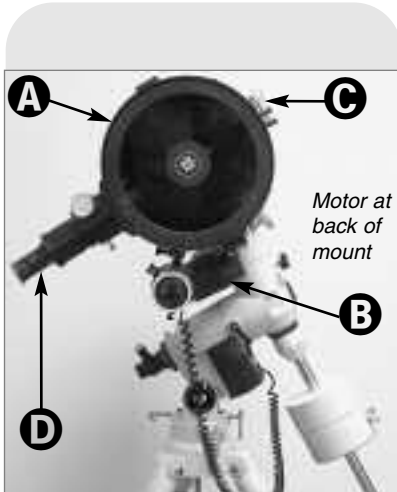

Fig. 48: Method #2 Setup. (A) Optical Tube; (B) Dec. Motor; (C) Cradle Ring Lock Knobs; (D) Eyepiece.
2. Refer to **Fig. 48** while performing this step. The Dec. motor (**B**) must be positioned so that it is at the back of the mount. The optical tube (**A**) must be approximately horizontal (*i.e.*, parallel with the horizon) and the counterweight shaft must be pointing straight down.
If using a Schmidt-Newtonian model, loosen the cradle ring locks knobs (**C**) and move the optical tube until the eyepiece (**D**) points downward as shown in the **Fig. 48**. Re-tighten the cradle ring locks.